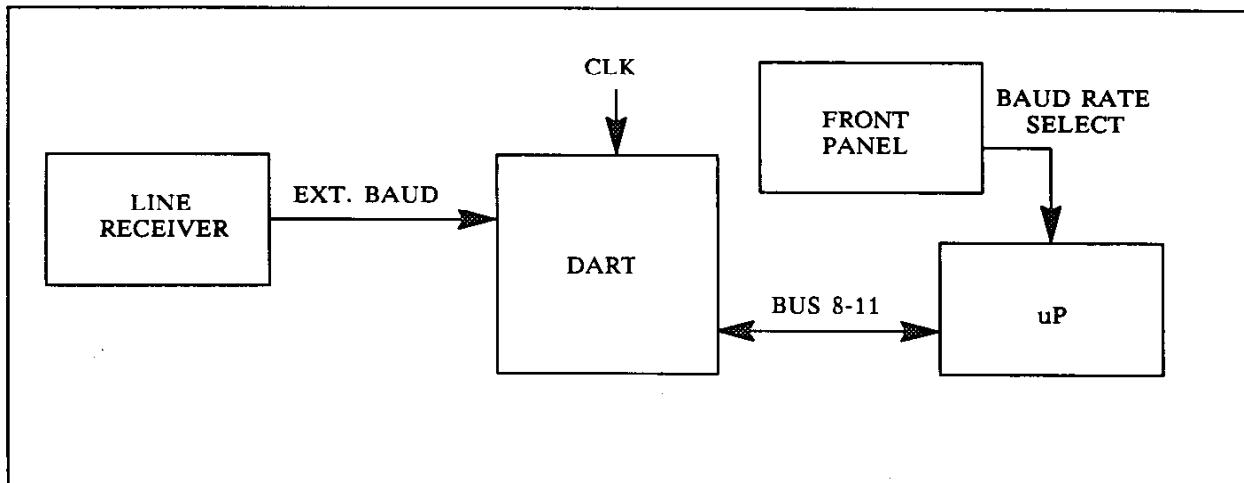

Figure 5-4. Baud Rate Generator Circuit
**5-39. Serial baud rate and handshaking configuration settings selected through the front panel are interfaced with the microprocessor bus by the Support Circuits. Figure 5-4 is a simplified block diagram of the baud rate generator circuit. Table 5-1 lists the baud rates and frequencies for the select codes.**